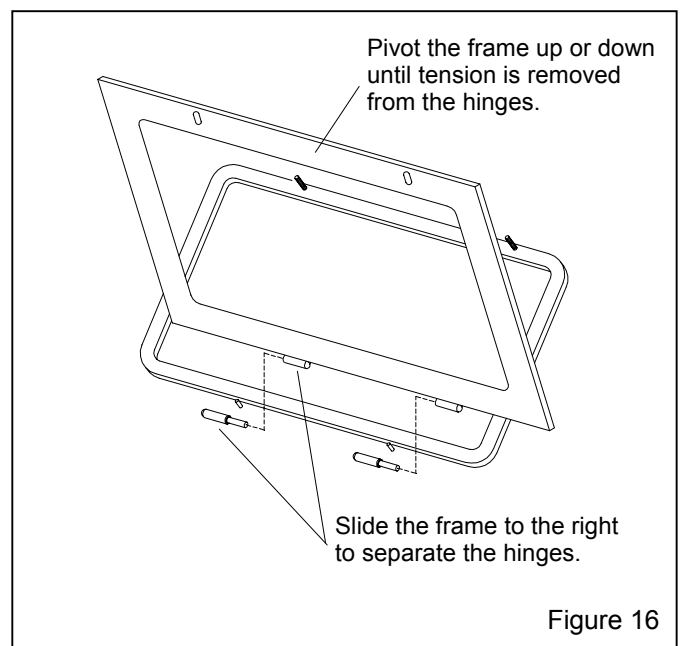

Figure 16
7.5 Window Frame Removal, Figure 16
7.5.4 Slide the frame to the right, to remove. The hinges separate as shown in Figure 16.